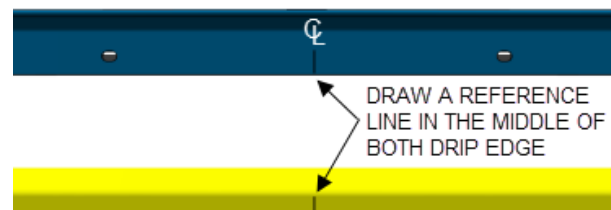

FIGURE 26
6. Draw a line to mark the center of both drip edge (FIGURE 26).